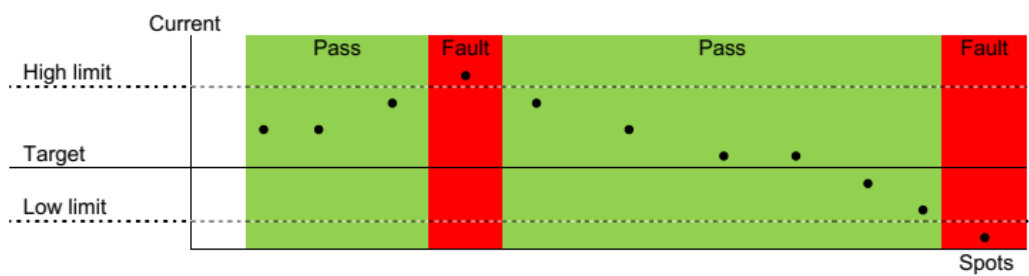

Figure 78: Current Limit Diagram
**Figure 78** shows visual representation of the current limit function.